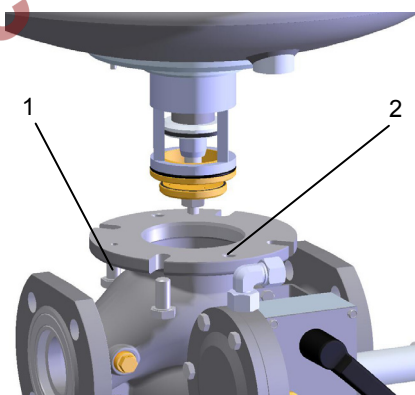

Fig. 7
- Loosen the four M12 screws (1) (A/F 19) which secures the regulator head to the control element housing.
- Carefully pull the regulator head upwards (Fig. 7). Force out the regulator head using the two threaded holes (2) in the flange with two M12 screws.